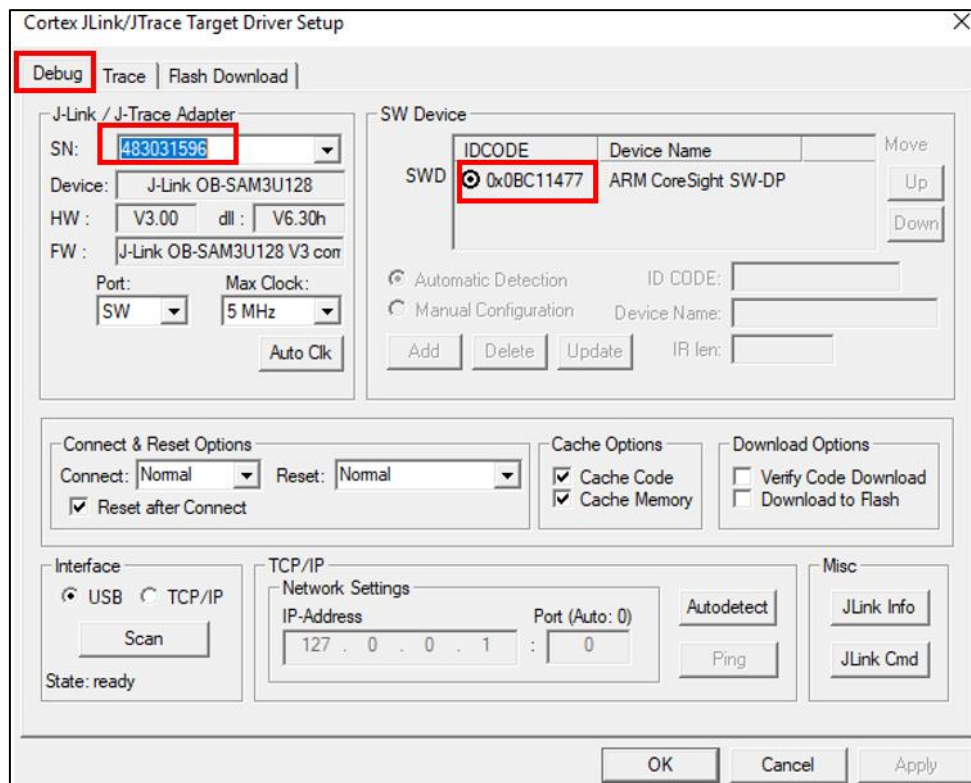

Figure 13: Keil – JTAG Device
9. Make sure that the fields **SN** and **SWD** have valid values. See Figure 13.